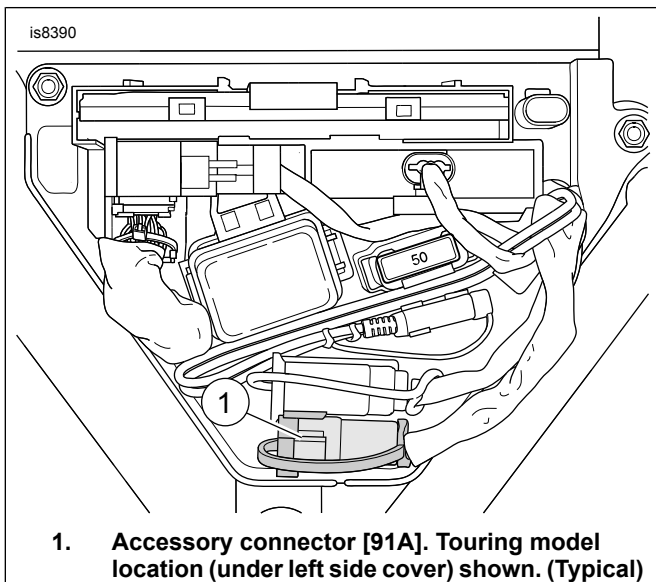

Figure 2. Accessory Connector
9. See Table 1 and Figure 2. Locate accessory/data link connector [91A].